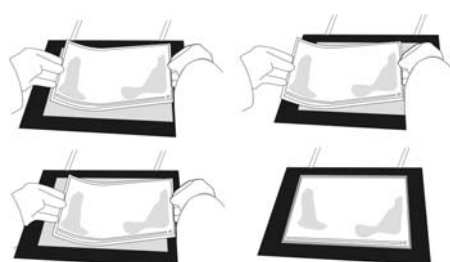

Fig. 3
7. Grip the gel (gel-side up) at the two lateral edges of the film, bend it into a "U-shape" and slide the film left and right to distribute the contact fluid evenly (Fig. 3). Remove any excess cooling fluid.